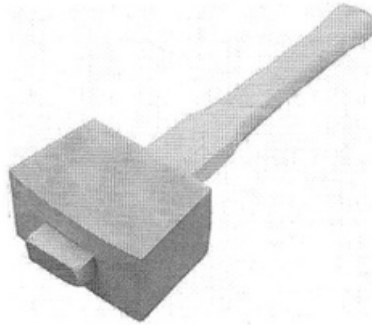

Figure 8
9. **Figure 8** shows a type of impelling tool generally used in the carpentry and joinery workshop. What is the correct name of this impelling tool? Write your answer on the line below. [1]